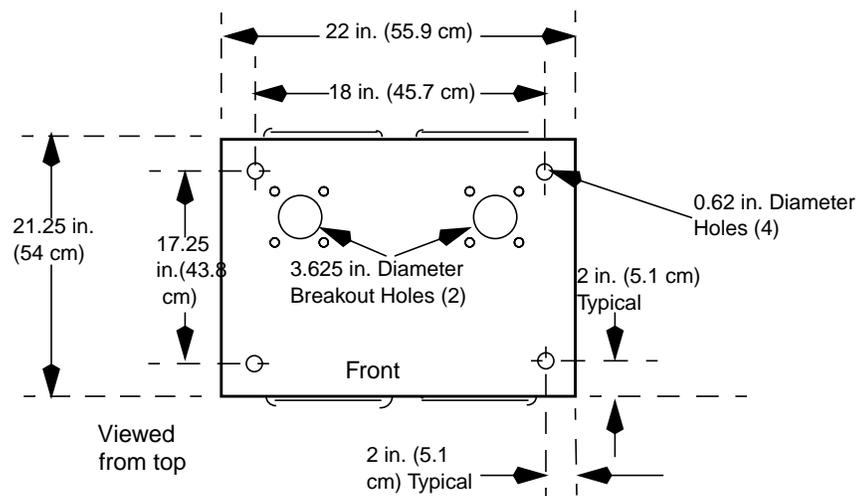

Figure 3-10: Drilling Template for a 46-in. Station Cabinet
- Base mounting (see Figure 3-10)